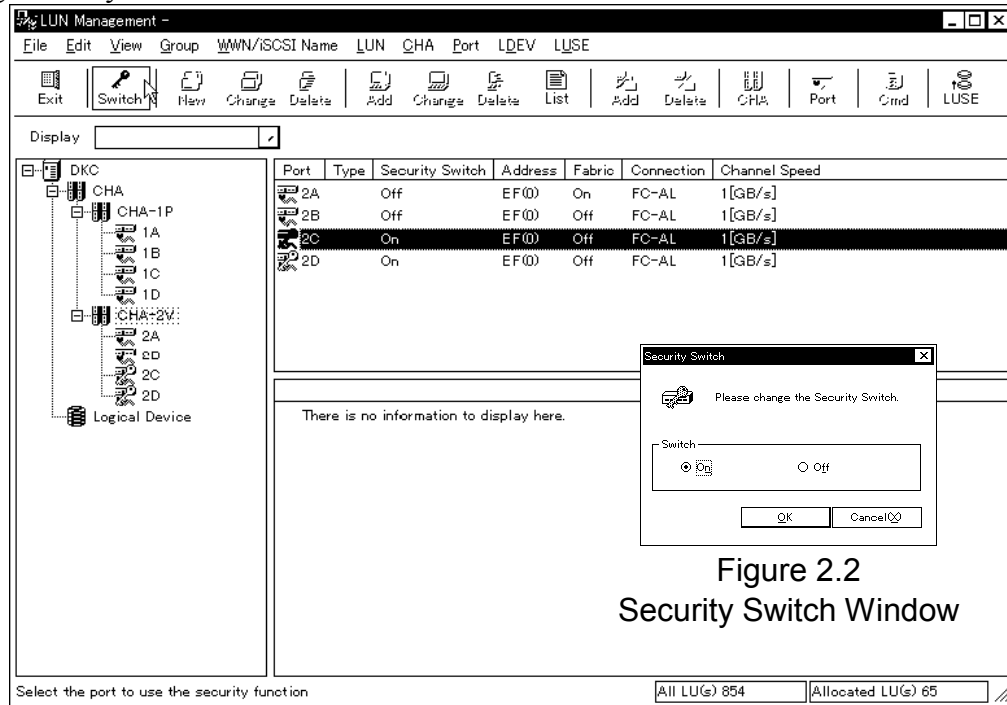

Figure 2.2
- ① Select (CL) a port for which you want to set the security switch from the upper right list.
- ② Select (DR) [Security Switch...] from the [Port] menu.
- ③ Since the Security Switch window (Figure 2.2) is displayed, check On or Off box and select (CL) the [OK] button.
Details of the Main window (Figure 2.1) and the Security Switch window (Figure 2.2) are shown below.